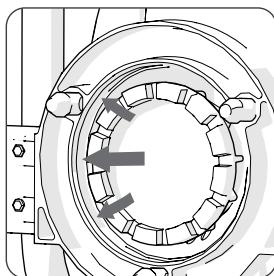

Fig. 10 (arrows show inner wall of annular ring)
- Keep the annular ring scrupulously clean and free from debris. (**Fig. 10**)